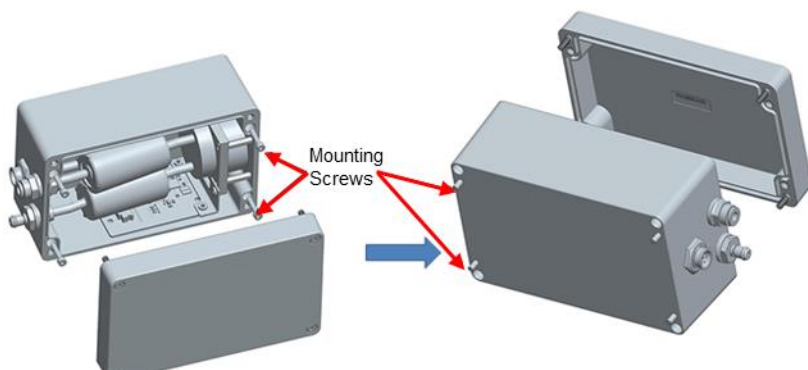

Figure 14: Place Mounting Screws
2. Open enclosure and insert mounting screws in the mounting holes as shown in Figure 14.